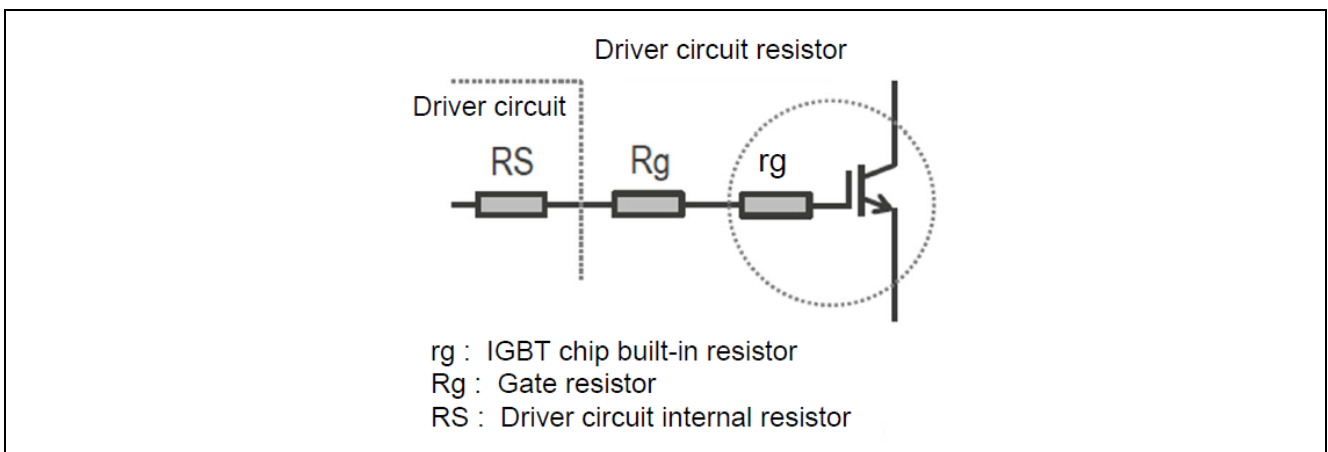

Figure 2-1 Gate Resistors
* When calculating I_g , it is necessary to consider chip built-in resistor r_g and internal resistor R_S of the driver circuit (Figure 2-1).